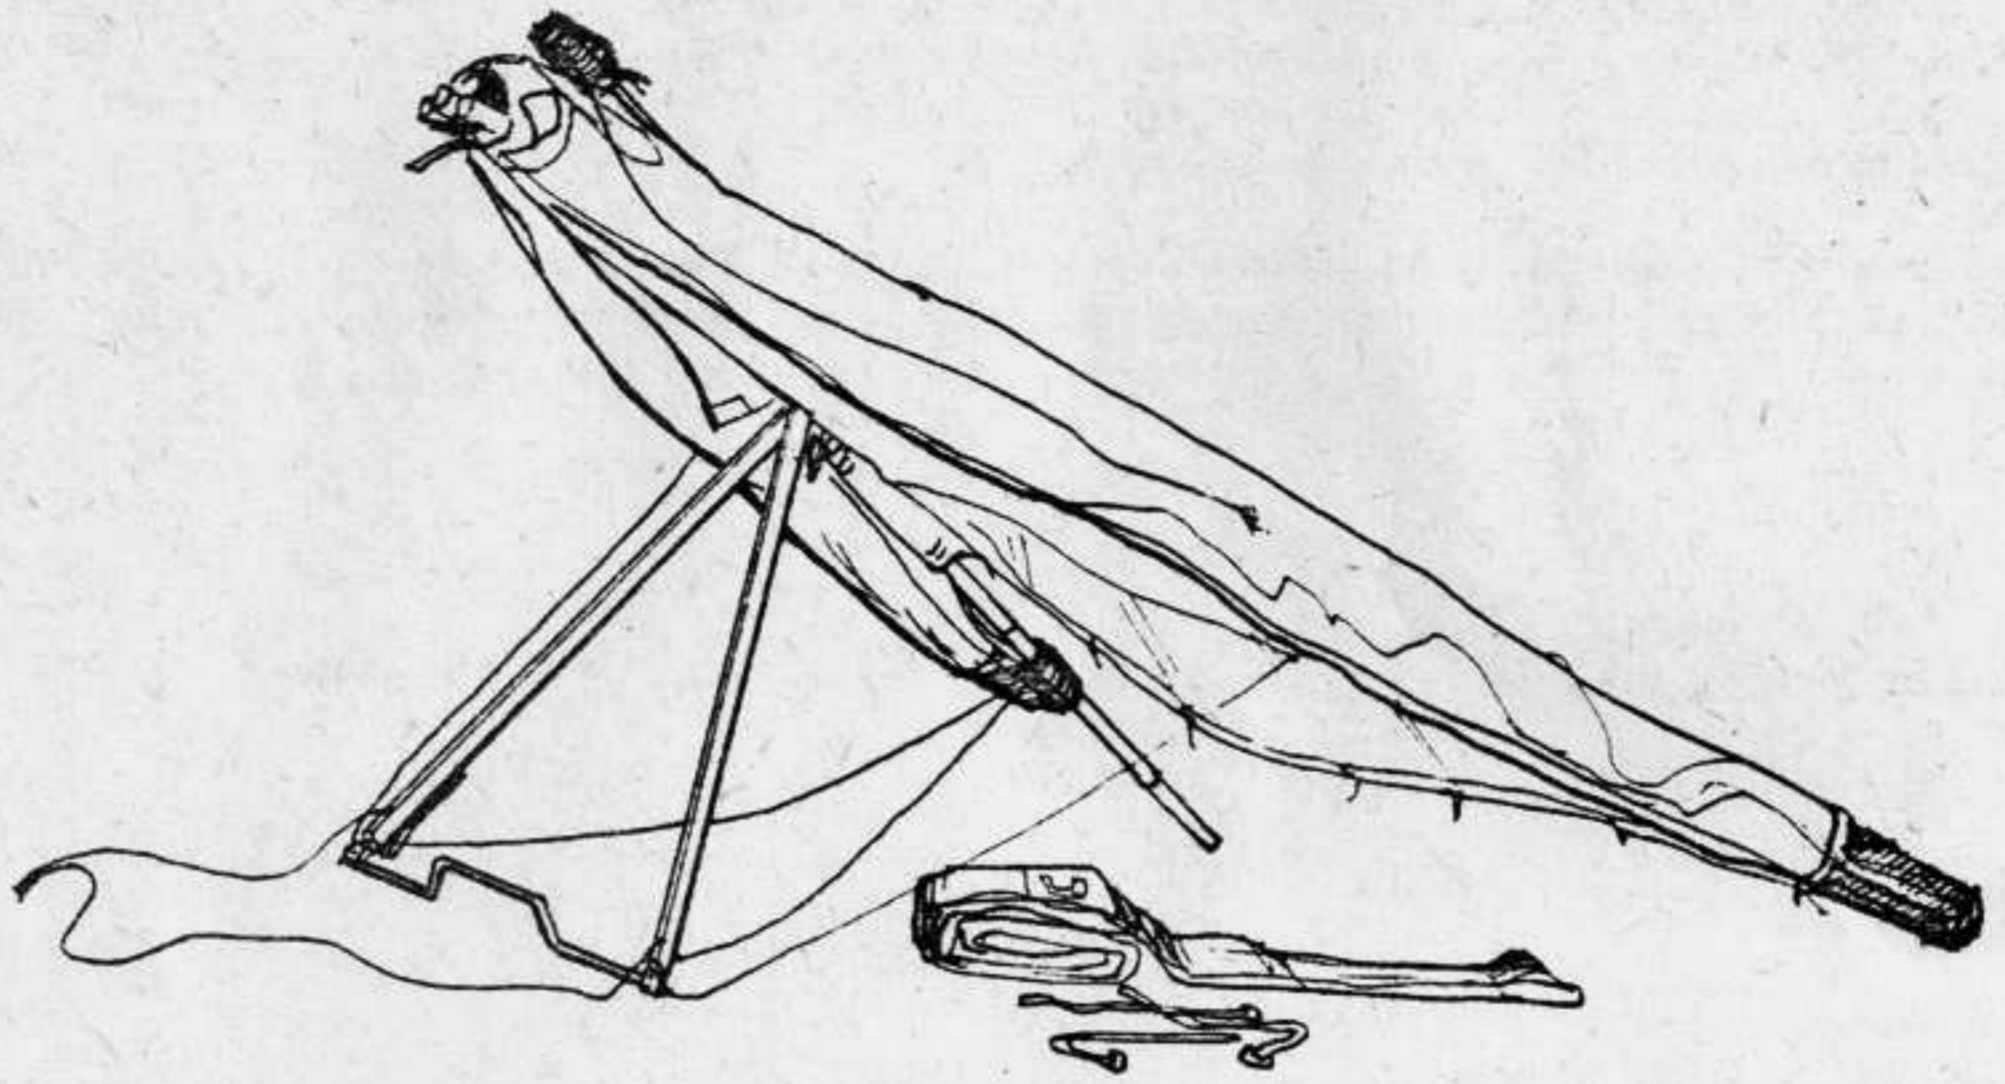

Fig.2
2.1.2. Rest the glider on the control bar, spread the LE-tubes so, that sail is a little sagged and the glider is resting on the consoles and on the keel tube (fig.2).